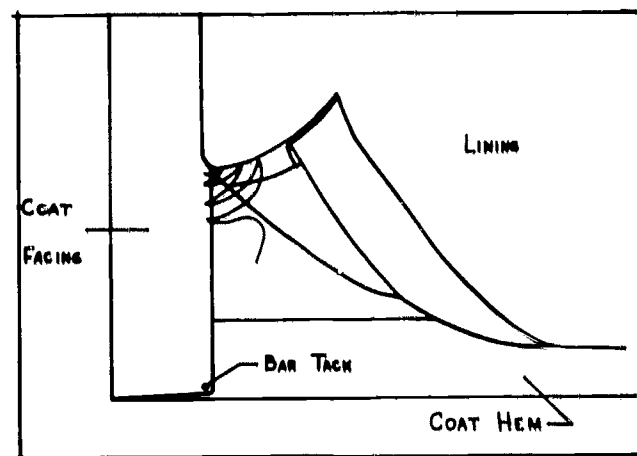

Figure 16.
4. Open facings by ripping all stitching that connects the facing to the coat (see Figures 16 and 17). The seam attaching the lining to the facings should be ripped about 2-1/2 inches above the new hem length. This gives enough space in which to work on the hem.